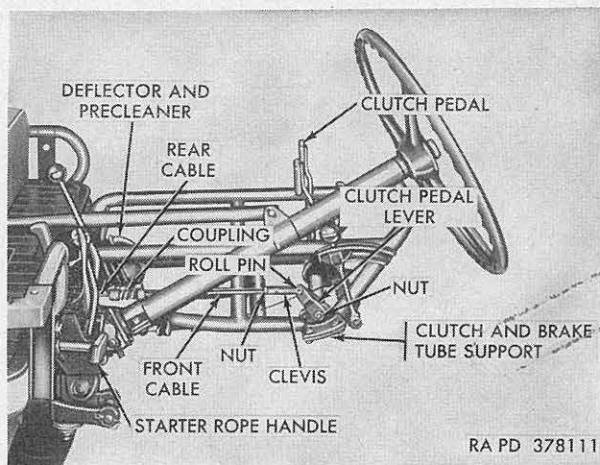
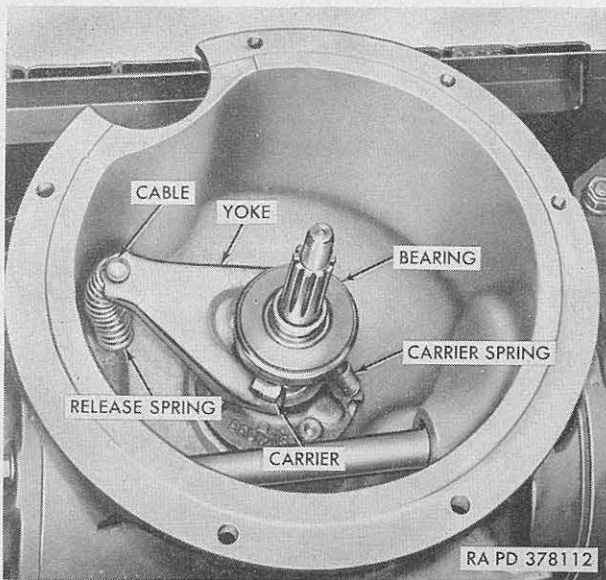
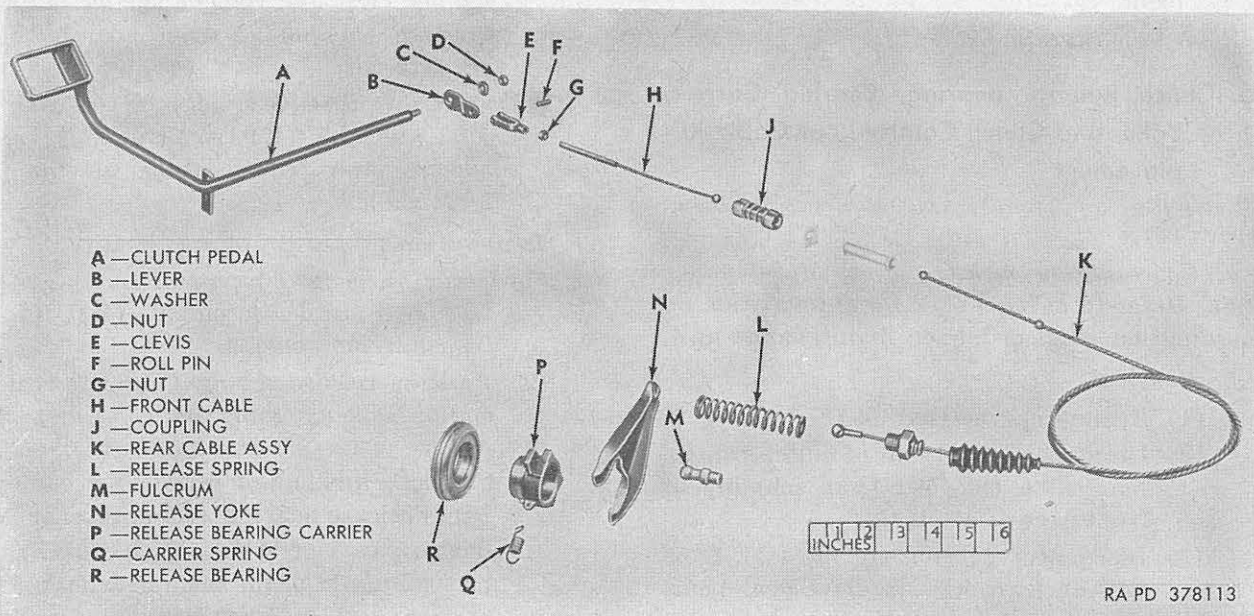
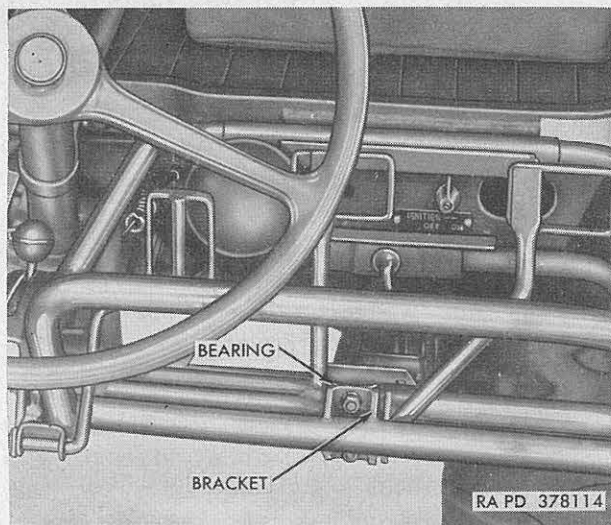

Figure 40. Clutch pedal and control front cable.
Figure 41. Clutch release bearing, carrier and yoke installed.
Figure 42. Clutch controls—exploded view.
Figure 43. Support for left end of clutch pedal shaft.
*a. Description.* The clutch is of the standard automotive single disk type, the disk operating between the rear face of the flywheel and the front face of the pressure plate. It is located inside the flywheel housing on the rear end of the engine, and is considered as part of the engine assembly. The clutch release bearing (fig. 41), bearing carrier, and yoke are installed in the rear axle housing. A clutch control rear cable extends from the clutch release yoke to a coupling located just forward of the front edge of the platform. From this coupling the clutch control front cable (fig. 40) extends to a lever on the right end of the clutch pedal shaft. An adjustment is incorporated in the front cable.
*Note.* The key letters shown below in parentheses refer to figure 42.
- (1) Remove engine (par. 59).
- (2) Disconnect front end of clutch control rear cable (fig. 40) from coupling at front edge of platform.
- (3) Disconnect carrier spring (Q) from lugs on transmission drive gear bearing retainer and release bearing carrier (P), and remove carrier and re-
- (3) Slide front end of clutch control rear cable through guide in front bed support crossmember and install ball on end of cable in coupling (fig. 40) attached to rear end of clutch control front cable.
(4) Install engine (par. 60).
## 66. Clutch Control Front Cable Assembly Replacement (fig. 40)
*a. Removal.* Drive out roll pin (fig. 40) connecting clutch control front cable and clutch pedal lever. Unscrew nut from end of clutch pedal shaft. Pull plain washer and clutch pedal lever off right end of shaft. Remove two hex nuts, lockwashers and bolts securing bearing
(fig. 43) near left end of clutch pedal shaft to bracket on foot rest. Pull clutch pedal (fig. 40) to left out of bearing, brake pedal and tube, and clutch and brake tube support.
b. *Installation.* Slide bearing (fig. 43) onto clutch pedal shaft (fig. 40) and push shaft through brake pedal and tube, and clutch and brake tube support. Position bearing (fig. 43) on bracket on foot rest and secure with two  $\frac{5}{16}$ -24NF x  $1\frac{1}{16}$  hex-head bolts, lockwashers, and hex nuts. Position clutch pedal lever (fig. 40) on flats at right end of brake pedal shaft, with offset pointing up and to the right, and secure with plain washer and  $\frac{5}{16}$ -24NF hex locknut. Position clevis on clutch control front cable assembly on upper end of clutch pedal lever and install  $\frac{1}{4}$  x  $\frac{5}{8}$  roll pin.